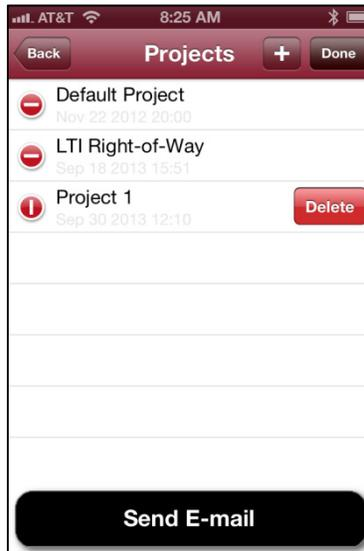
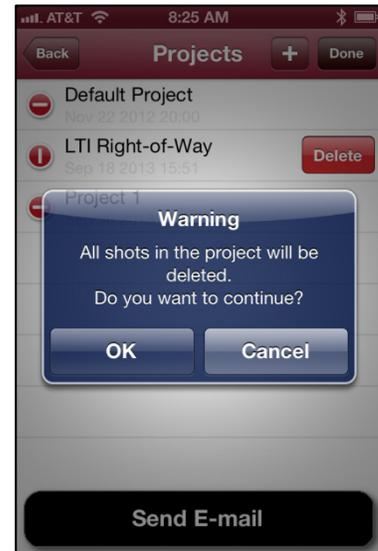

Figure 34
Figure 35
3. Tap the  button that appears next to it (Figure 34). If the project contains measurements, a warning message will appear notifying that all shots within the project will be deleted in addition to the project itself (Figure 35).